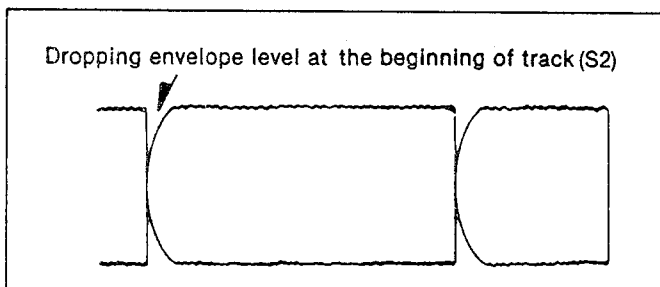
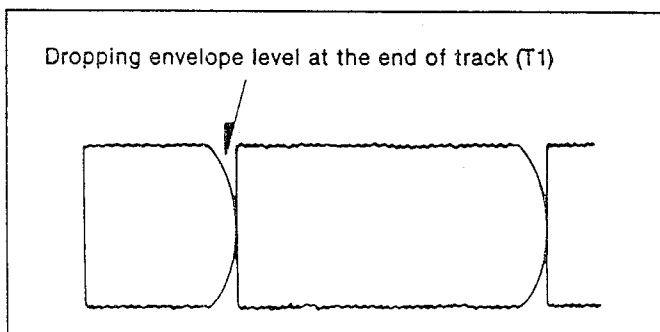
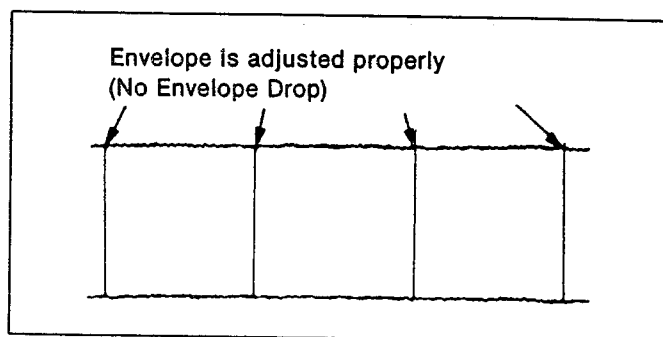

Fig. T10
Fig. T11
Fig. T12
- (3) When the scope display is shown in Fig. T10 adjust the height of S2 so that the wave looks like Fig. T12.
- (4) When the scope display is shown in Fig. T11, adjust the height of T1 so that the wave form looks like Fig. T12.